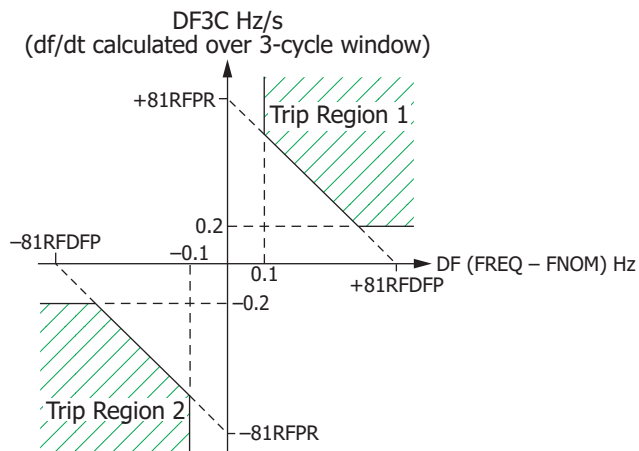

Figure 7 81RF Characteristic Power Element Protection
The fast rate-of-change-of-frequency protection, 81RF, provides a faster response compared to frequency (81) and rate-of-change-of-frequency (81R) elements. Fast operating speed makes the 81RF element suitable for detecting islanding conditions. The element uses a characteristic (see *Figure 7*) based on the frequency deviation from nominal frequency ($DF = \text{FREQ} - \text{FNOM}$) and the rate-of-change of frequency (DF3C) to detect islanding conditions.